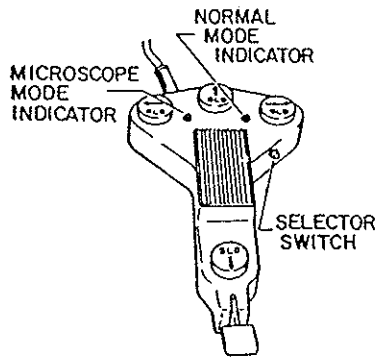

Figure 2-21. Foot Control Mode Switch
d. Microscope Mode Selector Switch. A switch located on the side of the foot control is used to change the operational mode of the foot control from Normal to Microscope. See figure 2-21. The Microscope mode reverses the direction of the top movements to compensate for the reverse imaging experienced when viewing through a microscope. It does NOT change the table speed.